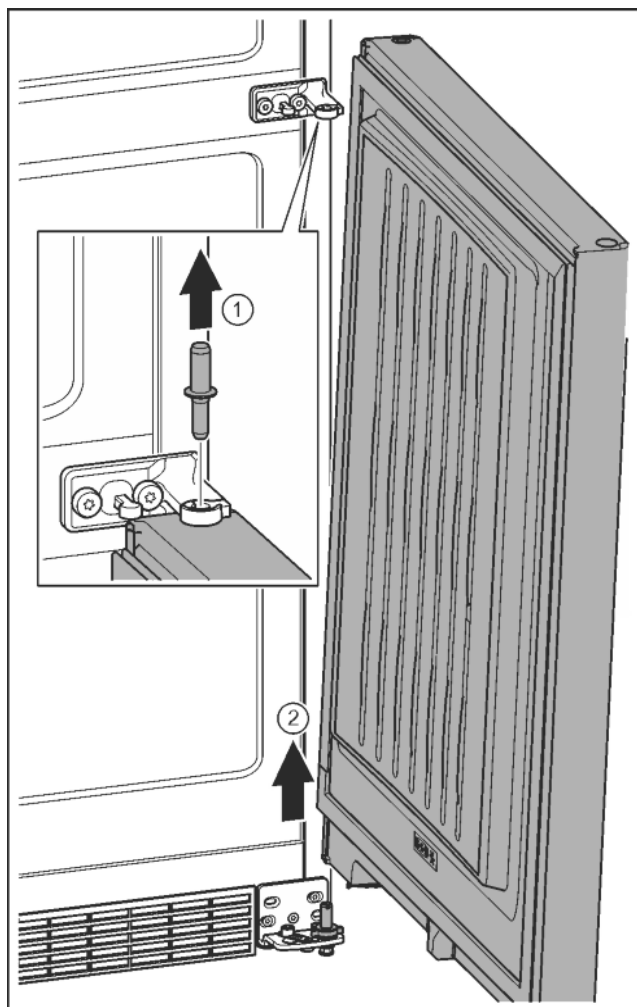

Fig. 10
- Pull out the bolts towards the top. Fig. 10 (1)
- Swing the door out, pull it upwards and set it aside. Fig. 10 (2)